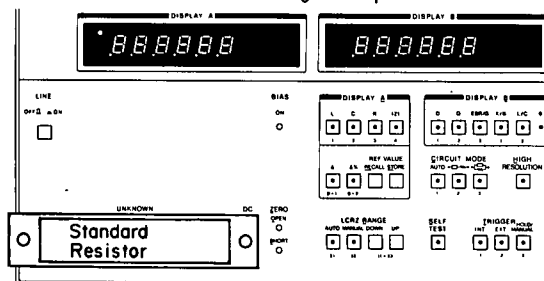

Figure 4-5. Resistance Accuracy Test Setup.
2. Connect 100Ω standard resistor direct to UNKNOWN terminals as shown in Figure 4-5.
1. Connect open terminator direct to UNKNOWN terminals as shown in Figure 4-5.